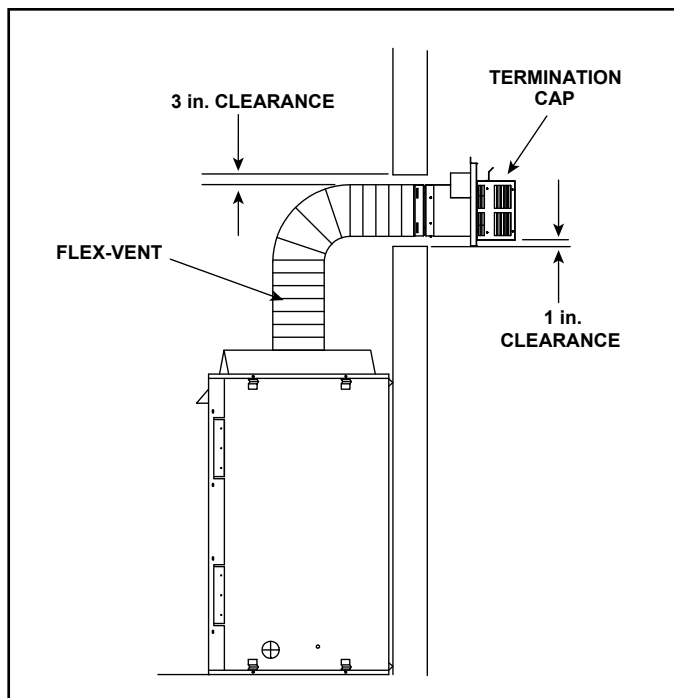

Figure 4.8 Flex Vent Pipe - Generic Fireplace Shown
A support is required at each change in venting direction, and in any location where it is necessary to maintain the necessary clearance to combustibles. A simple “up and out” installation (Figure 4.8) requires only enough support to maintain the necessary clearance to combustibles. However, the vent attachment point and the firestop location are considered to be supports.
**Note:** There MUST be a 25% reduction in total H when using SLP-FLEX Series (6-5/8 inch) vent except when using the simple up and out installation. See Figure 4.8.